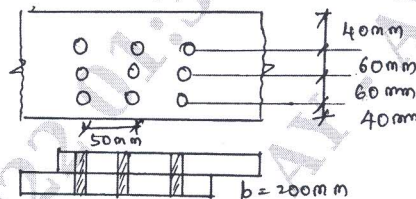

Fig.Q2(b)
- b. Determine the efficiency of lap joint shown in Fig.Q2(b). Use M₁₆ bolt and class 5.6 Fe 410 plate is used. (10 Marks)